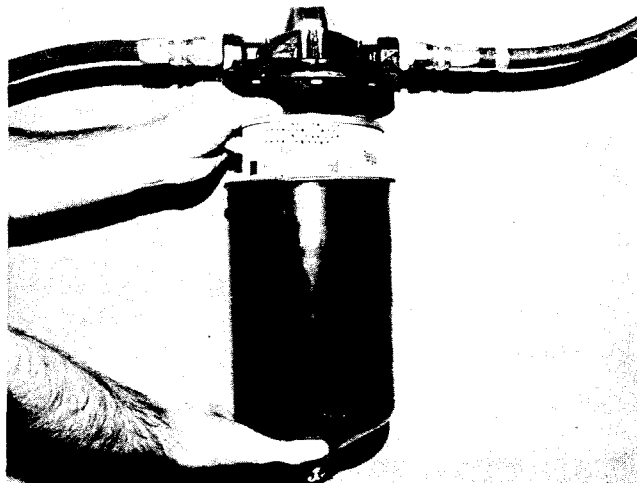

Fig. 2-20, (V11910). Installing replaceable fuel filter element
2. Loosen nut(s) at top of fuel filter(s). Take out dirty element, clean filter case(s) and install new element(s). Fig. 2-20.